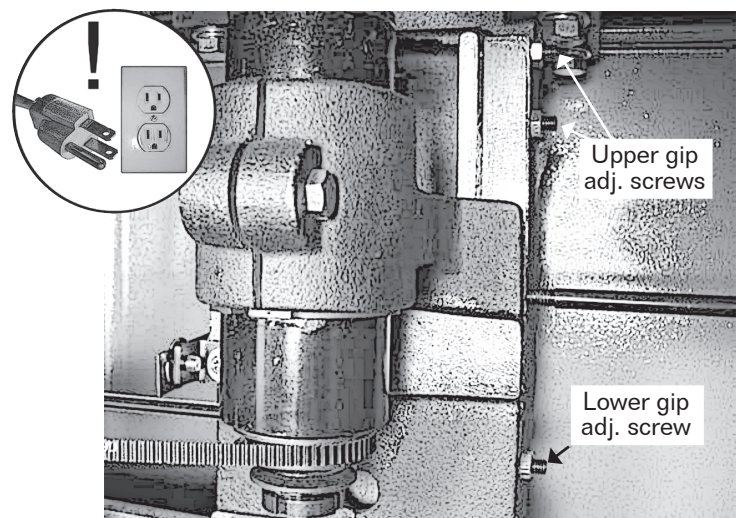

Fig 26. Gib adjustment screws.
4. If there is movement, adjust the gib against the elevation housing, using the adjustment screws at the top and bottom of the elevation housing. **Figure 26** shows the two upper gib adjustment screws and locknuts. One of the two lower adjustment screws is also visible in the photo.